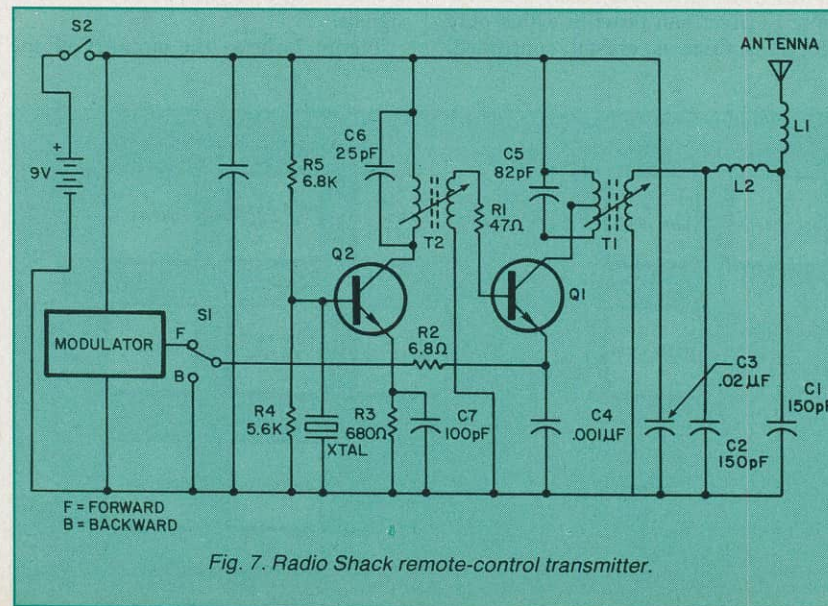

Fig. 7. Radio Shack remote-control transmitter.
transmitter's oscillator (Q2) and r-f amplifier (Q1). Transformers T1 and T2 can both be adjusted for peak operating performance. For simplicity, Fig. 7 shows the audio-frequency modulator as a function block. I'll have more to say about the modulator later.
*SEE FIG 7